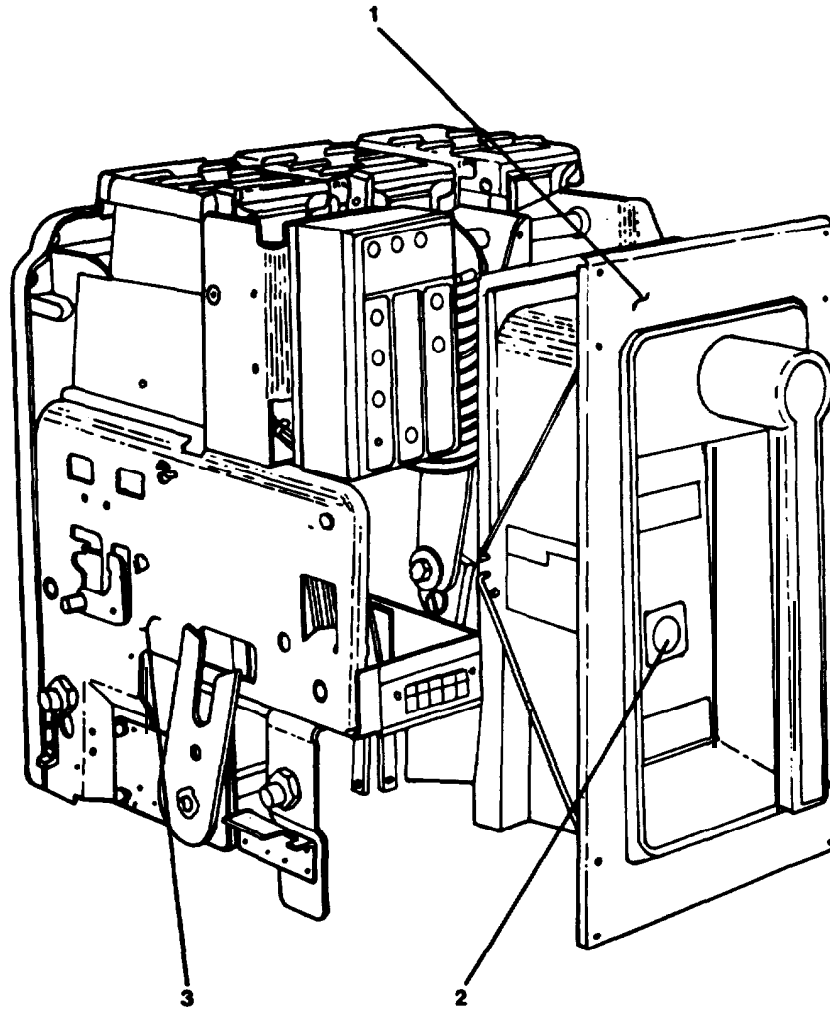

FIGURE 2-214. Circuit Breaker.
- (2) Verify it is correct breaker.
- (3) Ensure circuit breakers are OPEN.
- (4) Apply a thin coat of lubricant to breaker's primary disconnects.
- (5) Ensure racking cams on breaker are positioned for engagement with pins in compartment.
- j. Insert racking handle (8, FIGURE 2-213) into racking screw hole (2, FIGURE 2-214) and turn counterclockwise until jack screw comes to solid stop. Remove racking handle (8).
- k. Attach suitable lifting device and spreader rig and raise circuit breaker (1) above elevation of tracks.
- l. Slowly lower and guide circuit breaker (1) until circuit breaker (1) mounting pins drop into track slots of substructure (3).
- n. Manually push circuit breaker (1) in until it reaches track stops (DISCONNECT position).